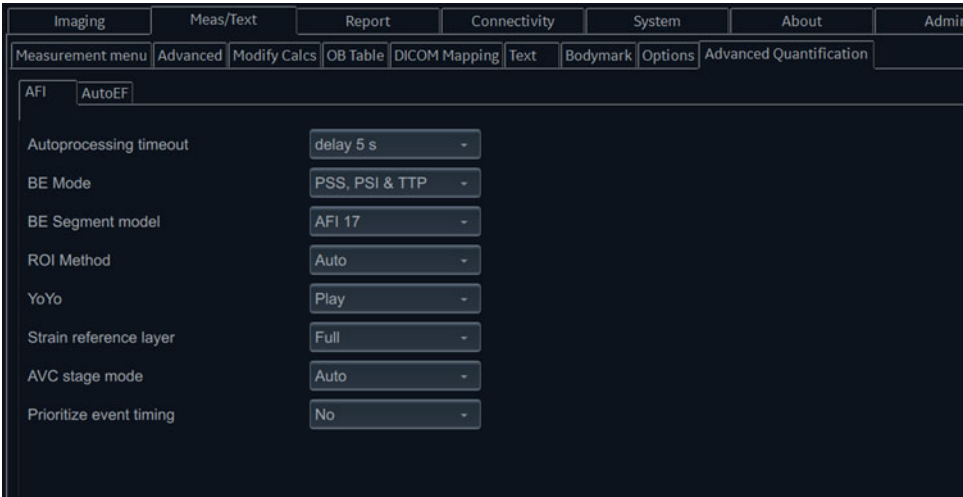

Figure 12-25. Advanced Quantification Tab with configuration options for AFI
- 2. Click on the **Advanced Quantification** Tab. The Advanced Quantification Tab is shown, see Figure 12-25.